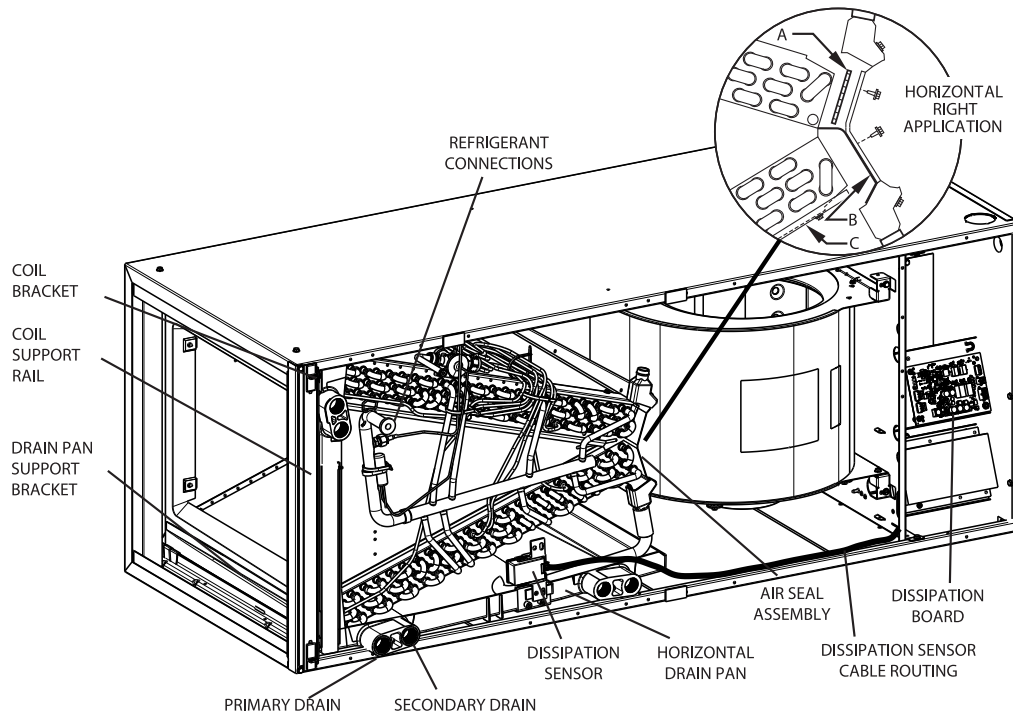

Fig. 8 – A-Coil in Horizontal-Right Application
1. Remove blower and coil access panels (Fig. 8).
- b. Remove air splitter (B) from coil seal assembly by removing 3 screws (Fig. 8 inset).
- c. Remove filler plate (A) and install air splitter (B) in place of filler plate.
- d. Install filler plate (A) as shown in horizontal right application.
- e. Remove condensate troughs (C) and install on opposite tube sheets.
12. Reconnect the sensor wire harness by following the routing shown in Fig. 8.
- b. If fan coil is against wall, secure fan coil to wall stud using 1/8-in. (3mm) thick right-angle brackets. Attach brackets to fan coil using No. 10 self tapping screws and to wall stud using 5/16-in. (8mm) diameter lag screws (see Fig. 8).